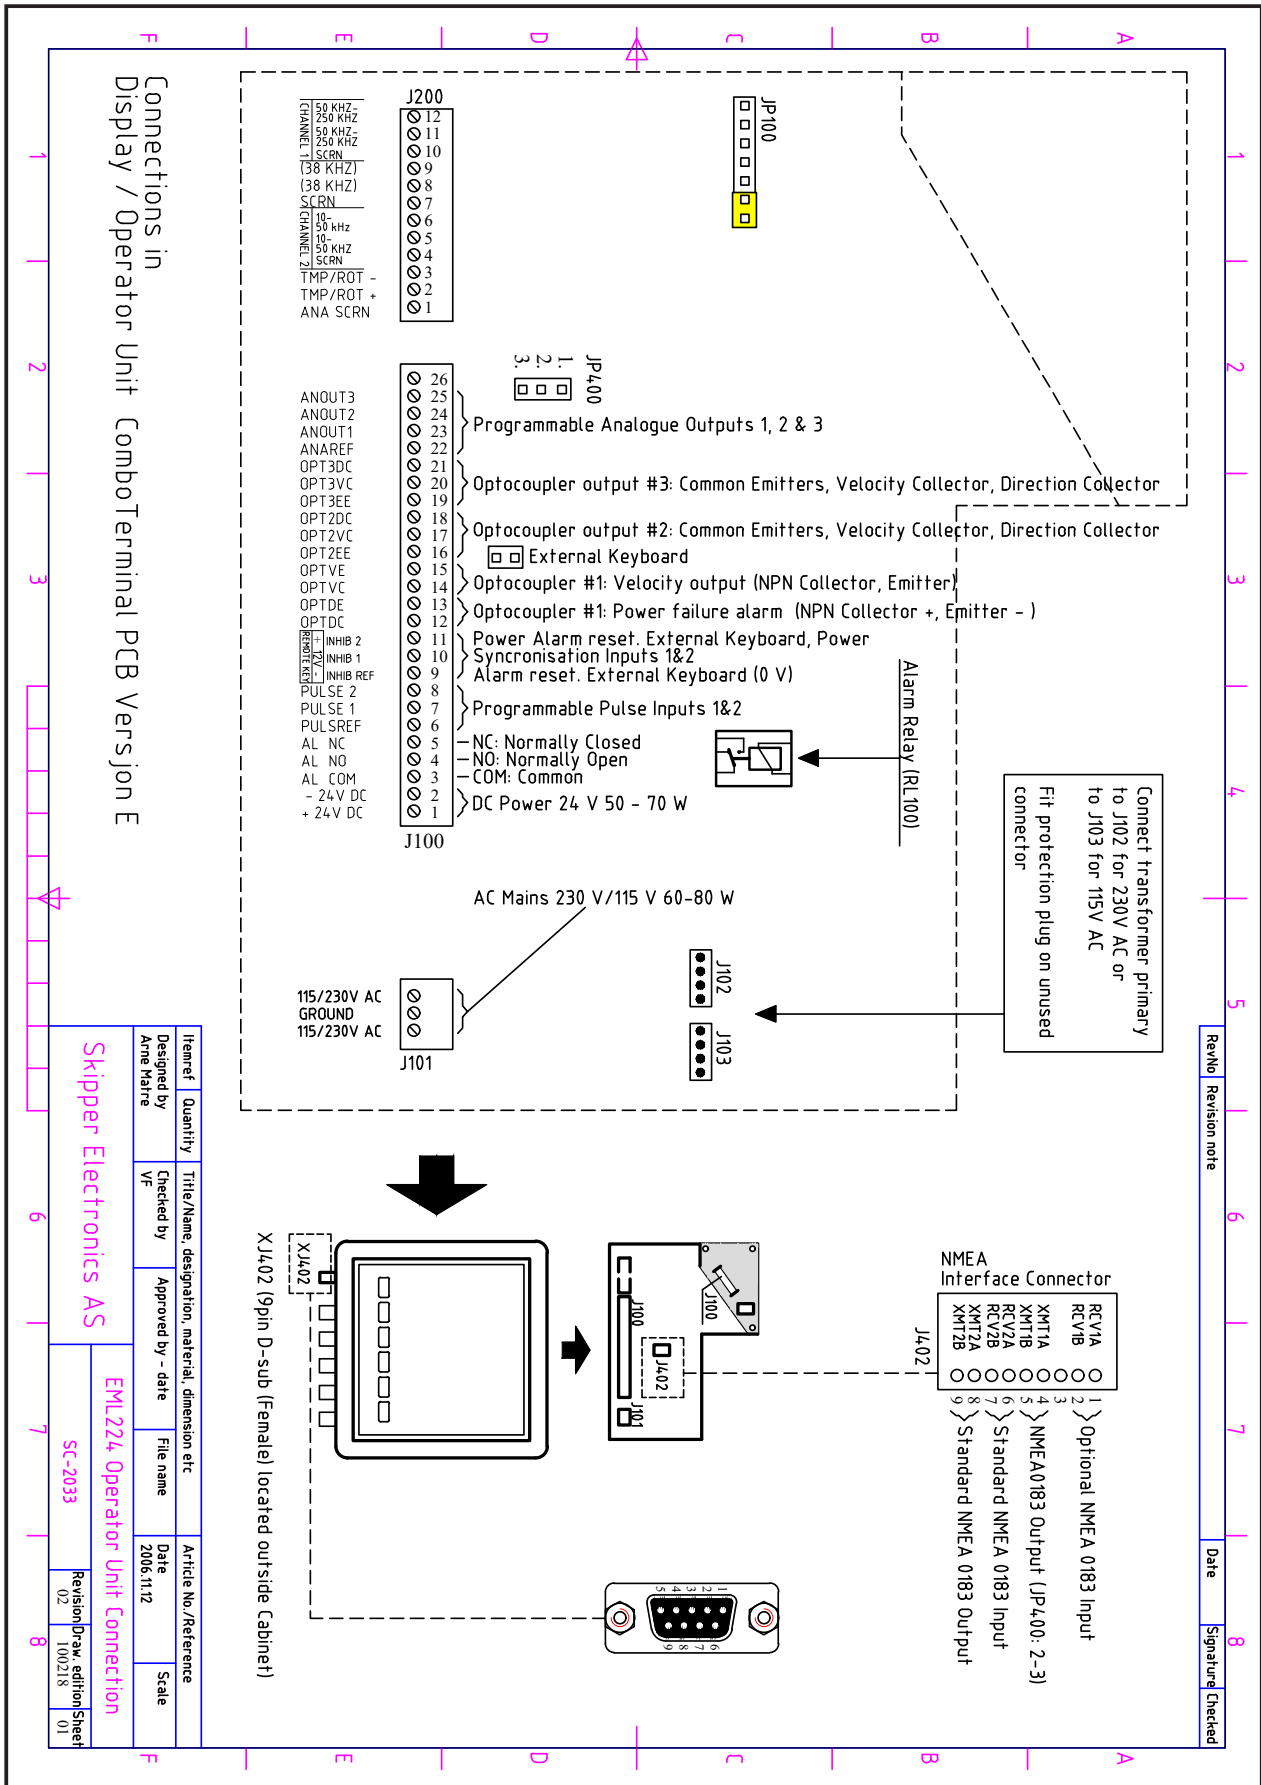

Fig. 11.2. Terminal board connections
- Fig. 11.2 Terminal board connection. See “Fig. 11.2. Terminal board connections” on page 61.